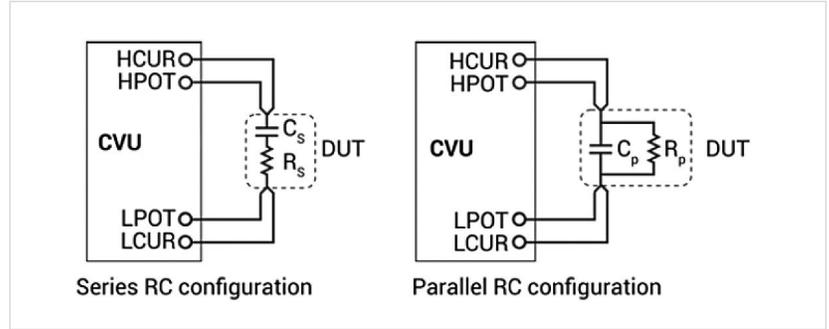

Figure 3. Simplified measurement models
Typical models of a measurement DUT are usually a series or parallel resistance-capacitance (RC) circuit. As shown in the simplified models in Figure 3, the CVU can measure the DUT as a series configuration ( $R_S C_S$ ) or as a parallel configuration ( $R_P C_P$ ).